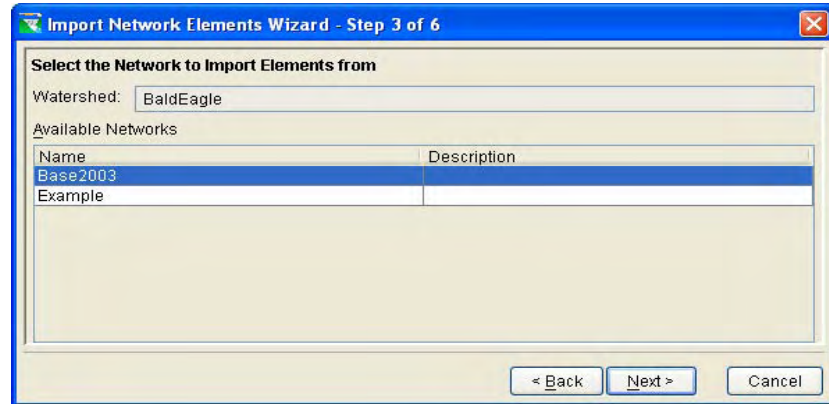

Figure 11.129 Import Network Elements Wizard – Step 3 of 6 (Select Network to Import Data From)
4. Select **Next** to continue and the **Import Network Elements Wizard – Step 3 of 6** will appear (Figure 11.129). Select the specific network from which you would like to import physical and operational data.